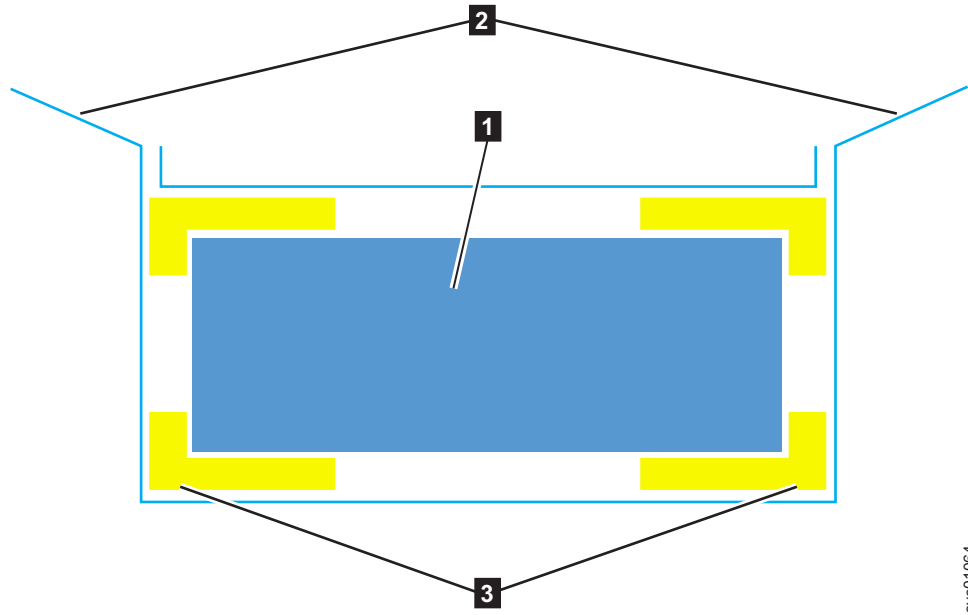

Figure 47. Packaging materials
3. Cut the corners of the shipping box and fold them down to uncover the sides and faces of the expansion enclosure, as shown in Figure 47 on page 55.